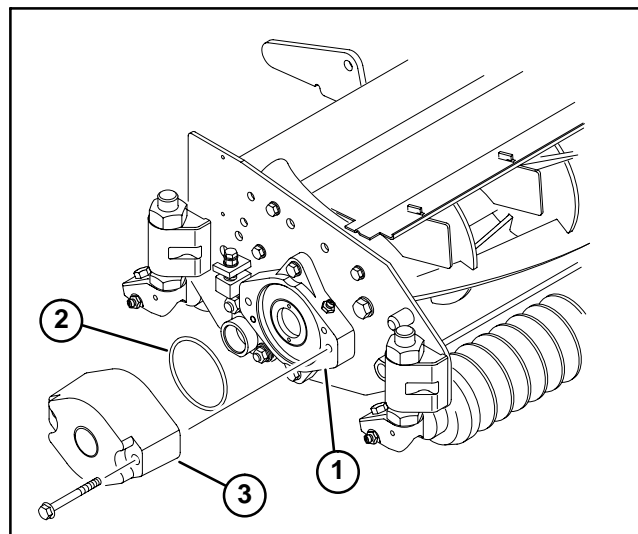

Figure 38
3. Lubricate and install a large O-ring into bearing housing groove on each end of cutting unit (Fig. 38 & 40).
4. Install a counter weight onto appropriate end of each cutting unit with capscrews provided (Fig. 38).